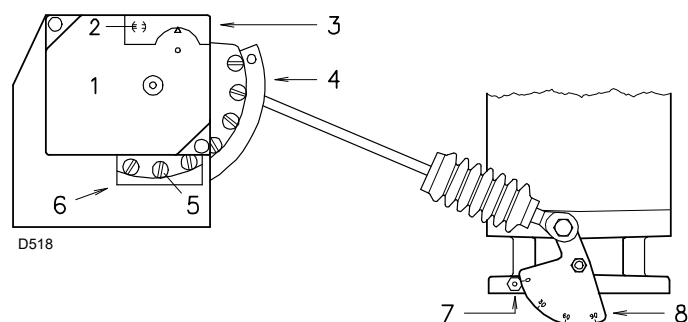
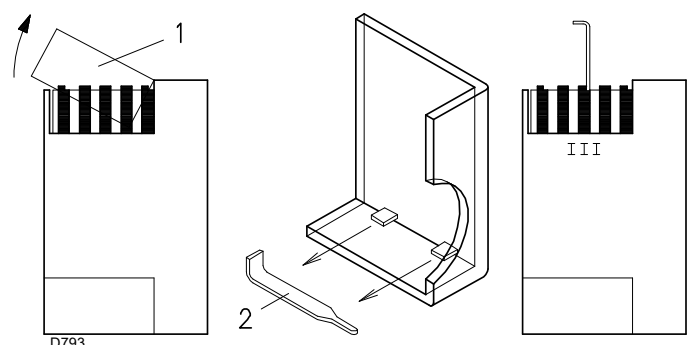
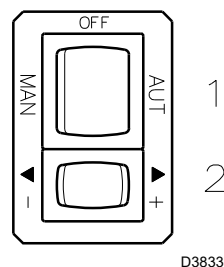

Fig. 29
Fig. 30
Fig. 31
Press and hold the "output reduction" button 2)(Fig. 31) until the servomotor closes the air damper and the gas butterfly valve is at 15° (factory setting).
- If it is necessary to reduce it, slightly decrease the angle of cam III (Fig. 30) with small, regular movements, i.e. bring it from an angle of 15° to 13° - 11°...
- If it is necessary to increase it, lightly press the "output increase" button 2)(Fig. 31) (open the gas butterfly valve by 10-15°), and increase cam III angle (Fig. 30) with a series of small movements, i.e. move from angle 15° to 17° - 19°...
If it is necessary to adjust cam III, remove the cover 1)(Fig. 29) inserted with a trigger catch, as indicated in (Fig. 30), extract the special key 2)(Fig. 30) from inside, and insert it in the notch of cam III.
Progressively adjust the beginning profile of cam 4)(Fig. 29) by turning the screws of the cam that appear inside the opening 6)(Fig. 29).
Now press the "increase output" button 2)(Fig. 31), and keep it pressed until the servomotor has opened the air damper and the gas butterfly valve to 90°.
Progressively adjust the end profile of cam 4)(Fig. 29) by turning the screws of the cam that appear inside the opening 6)(Fig. 29).
Lightly press the "increase output" button 2)(Fig. 31) so that a new screw 5)(Fig. 29) appears inside the opening 6)(Fig. 29), adjust it until optimal combustion is obtained.
Switch the burner off with switch 1)(Fig. 31), OFF position, release the adjustable profile cam by setting the servomotor slot 2)(Fig. 29) in a vertical position and check several times that by rotating the cam forwards and backwards by hand, the movement is soft and smooth, without any hindrance.